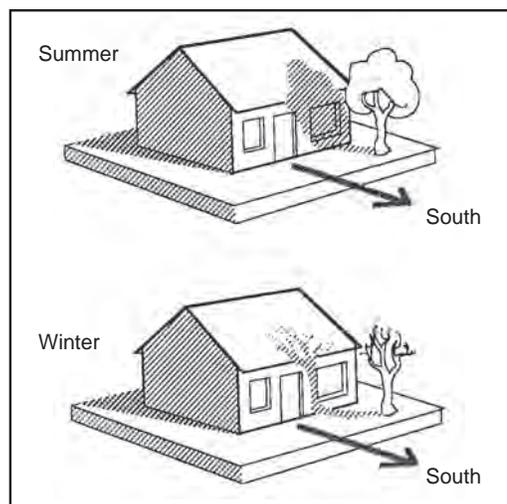

Fig. B-2: Deciduous trees for summer shading
- Use landscaping to protect your home from wind and sun. Evergreen trees planted on the north side of your home provide an effective wind buffer because they do not lose their needles in winter. On the south side, shade trees protect your home from the heat of the sun in the summer and allow the sun to warm your home in the winter when the leaves have fallen (see Figure B-2).